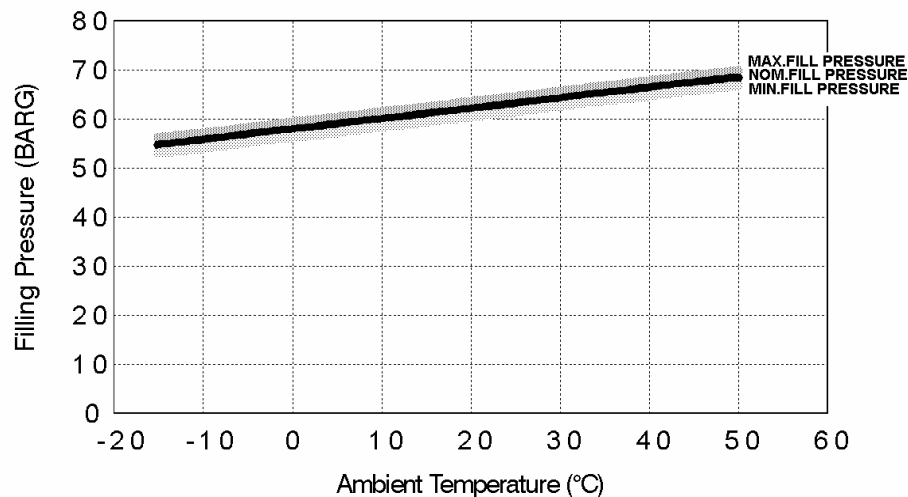

Figure 5: Suppression container filling pressure
Fike suppressant containers are factory filled with suppressant powder. After installation, the containers must be pressurised by a Fike Service Engineer during start-up of the system (dry nitrogen, initial pressure 62 barg at 22°C). It is possible that the fill valve/gauge assembly is supplied in a separate carton box, to prevent damages due to shipment. In this case, install the valve/gauge assembly on the top mounted boss, after having removed the plastic protection cap. Make sure all surfaces are clean and free from debris prior to installation. Use vacuum grease onto the O-ring and groove, tighten until the nut bottoms out. Refer to Figure 5 for the required filling pressure if the ambient temperature differs from 22°C to prevent accidental firing and possible injury due to overfilling.
- 5.14.  The container can now be pressurised. Check the container identification plate for the applicable fill pressure and pressurise with dry nitrogen (initial filling pressure: 62 barg at 22°C ambient temperature). Refer to Figure 5 for the required filling pressure when the ambient temperature differs from 22°C. Check for leaks using a suitable leak detection spray or liquid.